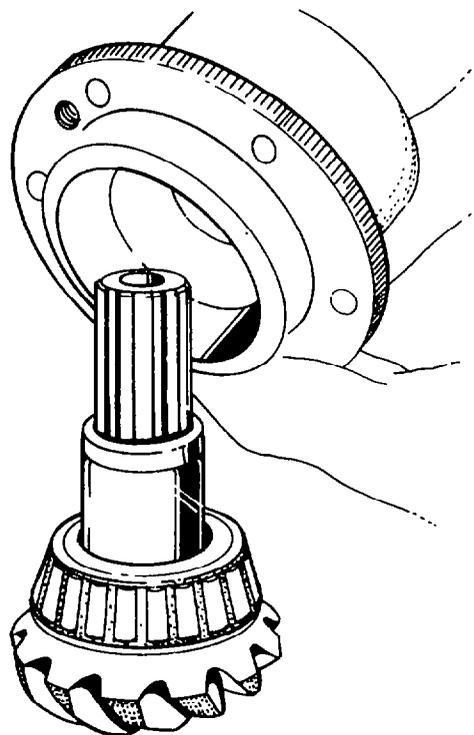

Fig. 282 — Removing Pinion Shaft Housing Assembly
- h. Lift the housing assembly clear of the bevel pinion shaft (see fig. 282) and remove the front bearing cone from the housing assembly.